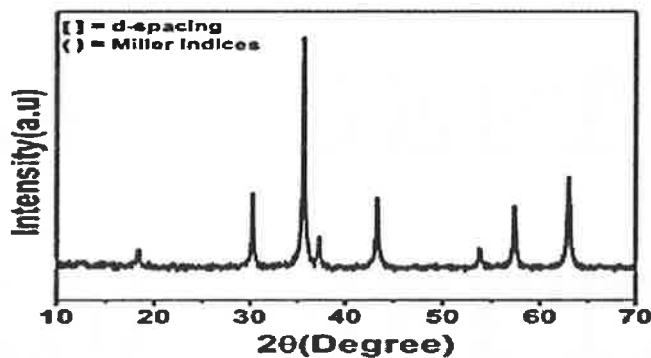
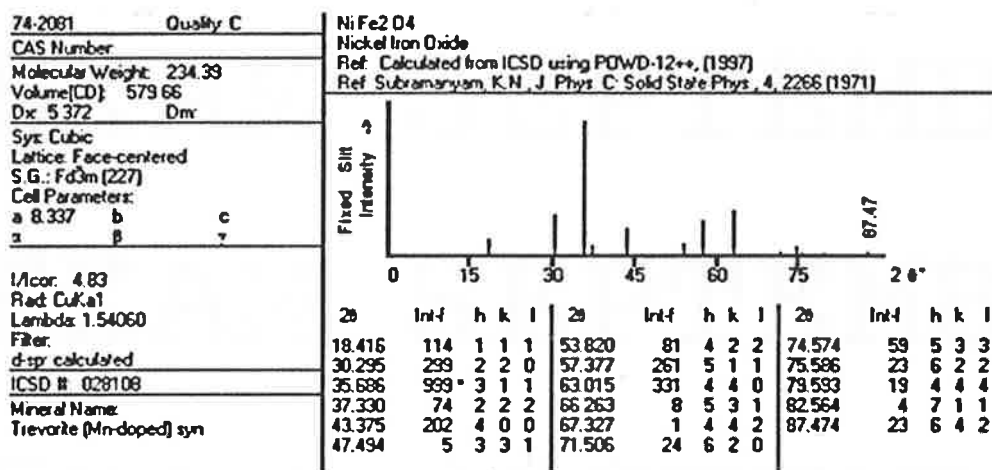

FIGURE Q1a
FIGURE Q1b
- b. Analyse the data peaks in FIGURE Q1a by correlate it with the JCPDS card in FIGURE Q1b file database.